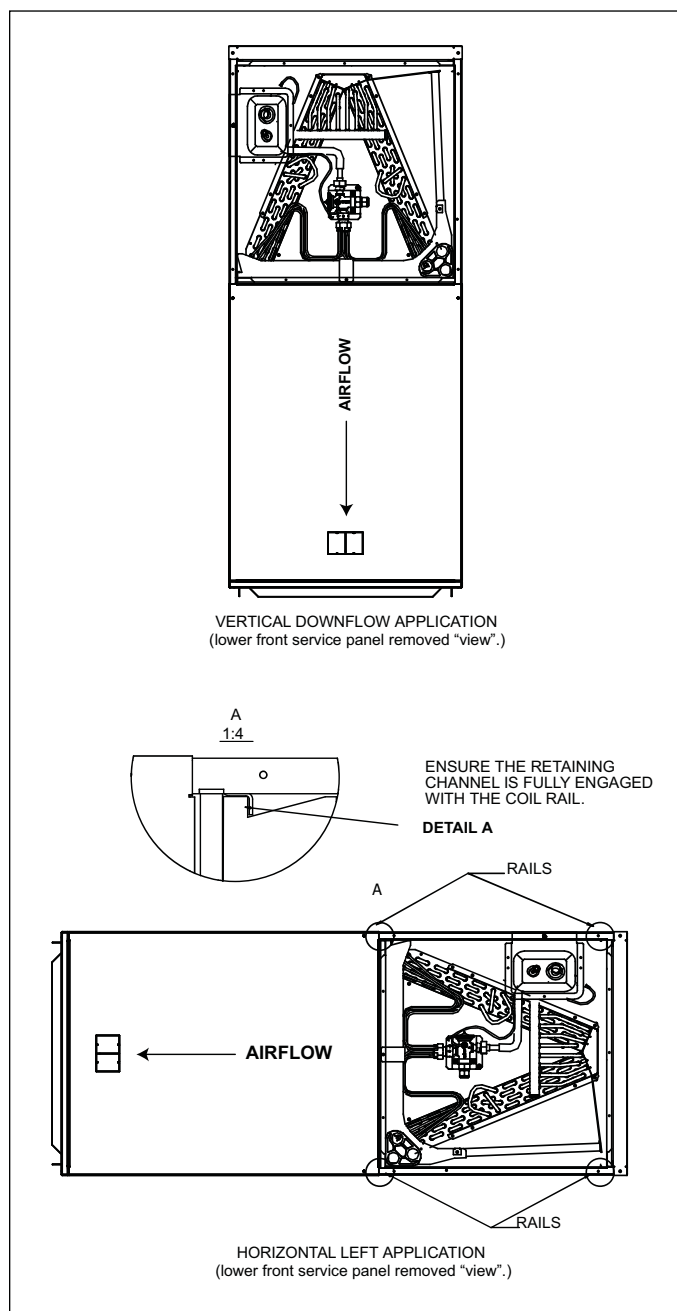

Figure 5
A vertical upflow unit may be converted to vertical downflow. Remove the door and indoor coil and reinstall 180° from original position. See Fig 5.
- ▶ Rotate the unit 90° into the horizontal left position, with the coil compartment on the right and the blower compartment on the left. See Fig. 5.
- ▶ Reinstall the indoor coil 180° from original position. Ensure the retaining channel is fully engaged with the coil rail. See Fig. 5.